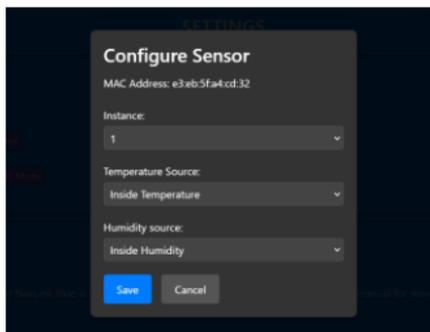

Figure 3
- When you are happy that you have correctly identified the sensor that you wish to setup, click the “Add Sensor” button alongside the sensor. Now a new Pop-Up will appear as shown in Fig 3.